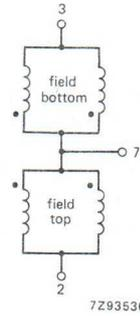

Fig. 2b Field coils.
**Field deflection coils, series connected (Fig. 2b) terminals 2 and 3**